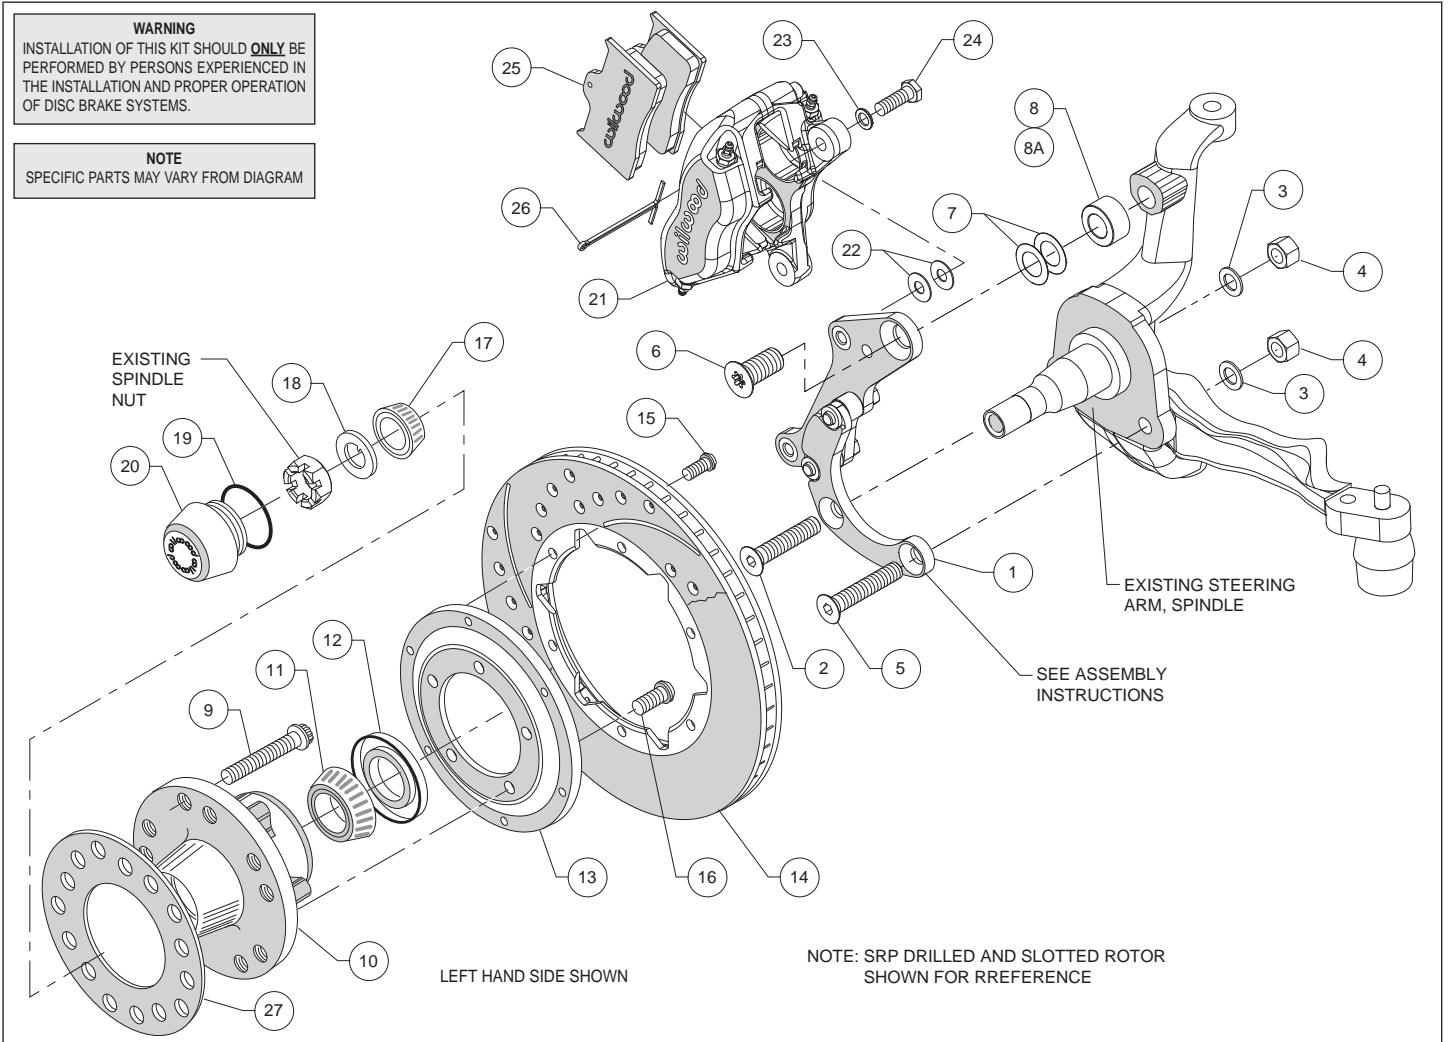
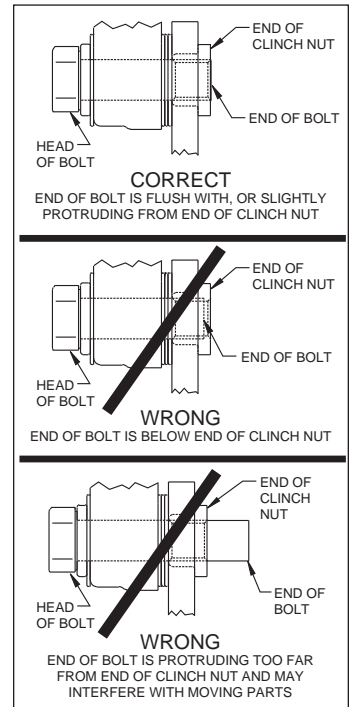

Figure 1. Typical Installation Configuration
Figure 3. Clinch Nut Engagement Diagram
**Assembly Instructions** (numbers in parenthesis refer to the parts list and Figure 1 on the preceding pages): **CAUTION:** All mounting bolts must fully engage clinch nuts. Be sure to check that all bolts are either flush or protruding through flanged side of clinch nut after shimming, Figure 3.
- The caliper mounting bracket (1) has been assembled at the factory for alignment purposes. Loosen the two bolts that secure the brackets together so that the bolts are hand tight only, this will enable the bracket assembly to be adjusted to accommodate various spindle tolerances during assembly. Align bracket with the two lower holes on the spindle face and attach using bolts (2 and 5), washers (3), and secure using nuts (4), as shown in Figure 1 and Photo 1. Install bolt (6) through top of bracket while placing spacer (8, Impala drum spindle only, or 8A for Impala and Corvette disc spindles) and shims (7) between bracket and spindle, Figure 1. Initially place two .010" thick shims (7) on the top bolt between the bracket and upright, Figure 1. Temporarily tighten the mounting bolts. Ensure that the flanged heads of the clinch nuts in the bracket are facing outboard, Photo 1. **NOTE:** The bracket must fit squarely against the mounting points on the spindle and be parallel with the mounting face. If not, add or subtract shims (7) on the top bolt between the bracket and spacer. Inspect for interference from casting irregularities, machining ridges, burrs, etc. Remove lower bolts one at a time, apply red *Loctite*® 271 to the threads, and torque nuts to 77 ft-lb. Remove the upper bolt (6), apply red *Loctite*® 271 to threads, and torque to 140 ft-lb. Remove one at a time the bolts that secure the bracket assembly to each other, apply red *Loctite*® 271 to the threads and torque to 40 ft-lb.
- Pack the large inner bearing cone (11) with high temperature disc brake bearing grease (available from your local auto parts store) and install into the backside of the hub (10), Photo 3.
- Install the grease seal (12) by pressing into the backside of the hub (10), flush with the end of the hub, Photo 3.
- Orient the rotor (14) and the rotor adapter (13) as shown in Figure 1 and Photo 4. Attach the rotor to the adapter using bolts (15). Using an alternating sequence, apply red *Loctite*® 271 to the threads, and torque to 25 ft-lb.
- Mount the adapter/rotor assembly (13/14) to the hub (10) using bolts (16), as shown in Figure 1 and Photo 5. Using an alternating sequence, apply red *Loctite*® 271 to the threads, and torque to 55 ft-lb.
- Pack the small outer bearing cone (17) with high temperature disc brake bearing grease and install into hub (10). Slide the hub/rotor assembly onto the spindle. Secure using spindle washer (18) and spindle nut (19), Photo 6. Adjust bearings per OEM specifications. Install saved OEM nut lock (if any) and a new cotter pin (not supplied).
- Screw dust cap (20) into hub (10), Photo 7. Friction created by the o-ring (19) on the dust cap keeps it from unscrewing. **NOTE:** The O.D. of the existing OEM spindle washer may be larger than the I.D. of the dust cap not allowing it to seat against the hub face. Therefore, use the spindle washer (18) supplied with the kit instead of the OEM washer.
- NOTE:** Please reference the caution statement at the beginning of the assembly instructions. Mount the caliper (21) onto the caliper mounting bracket (1) using bolts (24) and washers (23), as shown in Figure 1. Initially place two .035" thick shims (22) on each bolt between the caliper and the bracket, Photo 8. Temporarily tighten the mounting bolts and view the rotor (14) through the top opening of the caliper. The rotor should be centered in the caliper, Photo 9. If not, adjust by adding or subtracting shims between the bracket and the caliper. Always use the same amount of shims on each of the two mounting bolts. **NOTE:** The end of each bolt must be flush with or slightly protruding from the head of the clinch nut, as shown in Figure 3. If necessary place spare shims between washer (23) and caliper mounting ear to achieve the proper clinch nut engagement. Once the caliper alignment and clinch nut engagement are correct, remove the bolts one at a time, apply red *Loctite*® 271 to bolt threads, and torque to 40 ft-lb.
- Install the disc brake pads (25) into the caliper, with the friction material facing the rotor (14), and secure in place using cotter pin (26), Photo 10.